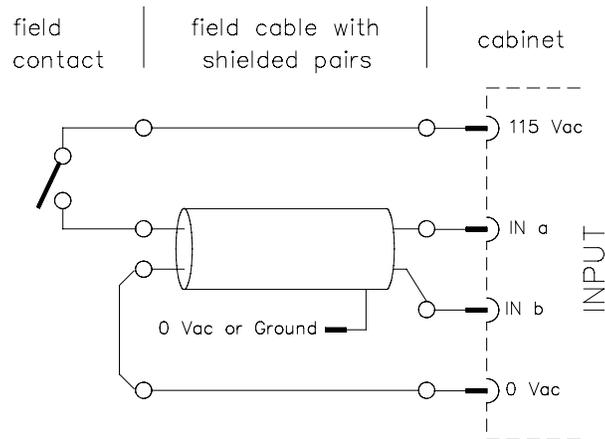

Figure 5 Field cable with shielded pairs
2. Connect the second wire of each pair to 0 Vac (see Figure 5). The 115 Vac / 0 Vac supply pair can be used for more than one input.